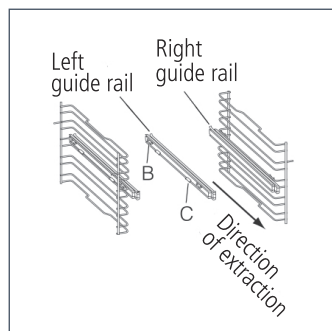

Fig 1.
- › Choose which shelf to use with the telescopic runner. Paying attention to the direction in which the runner is to be extracted, position joint 'B' and joint 'C' on the frame (see Fig.1).
- › Finally, refit the side racks (see Fig.1).